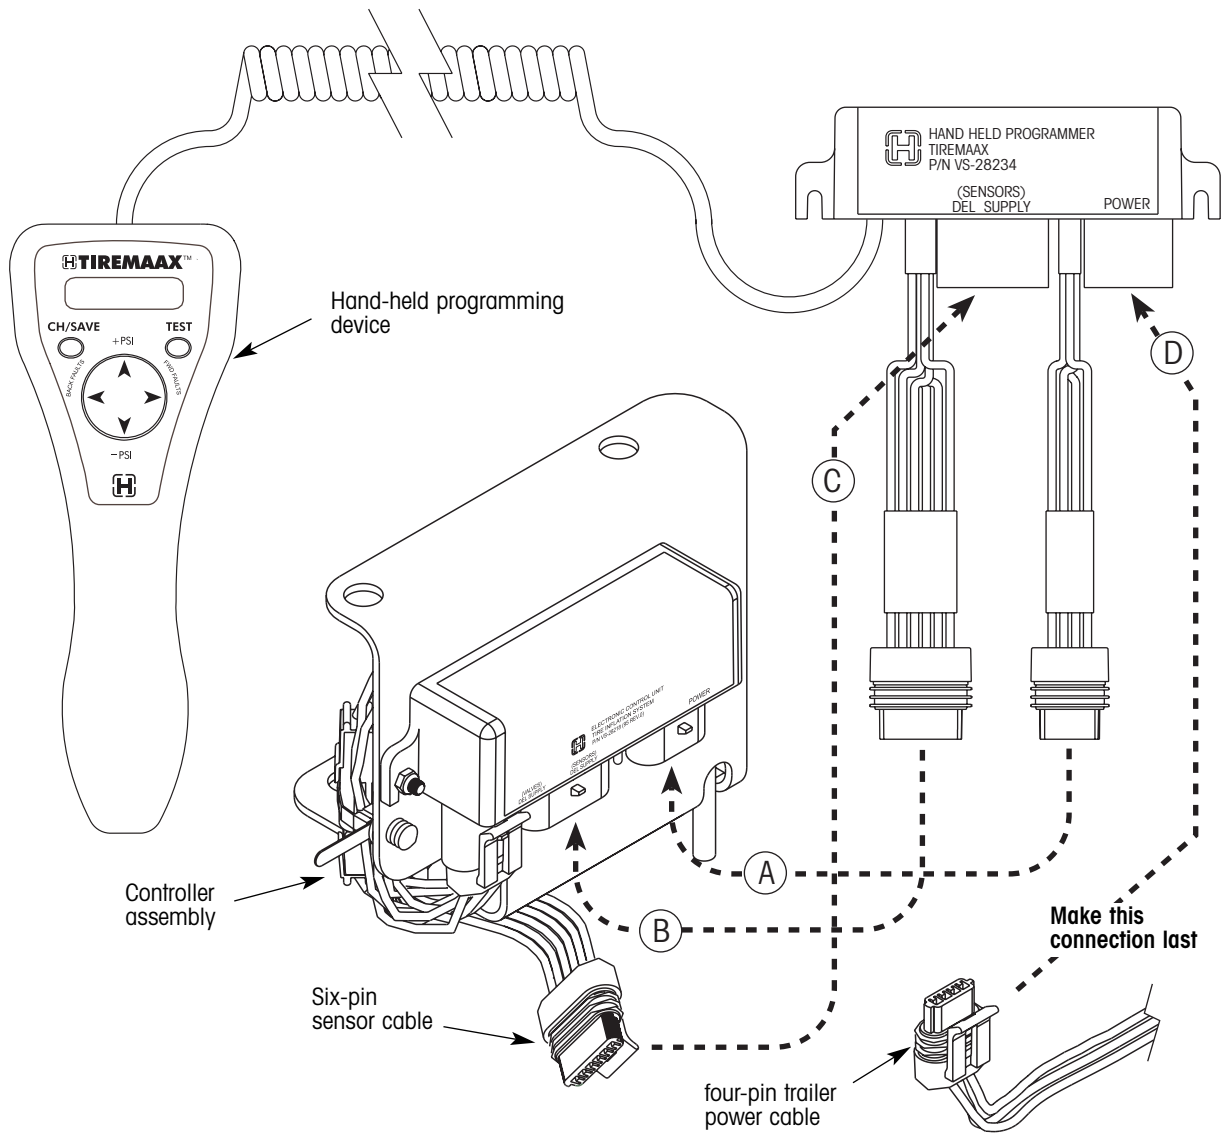

Figure 4. Connecting the hand-held programming device to the controller assembly ECU
5. Plug the four-pin connector from the hand-held programming device into the open four-pin socket on the controller assembly ECU (connection A, figure 4, the four-pin socket next to the LED).
6. Plug the six-pin connector from the hand-held programming device into the open six-pin socket on the controller assembly ECU (connection B, figure 4).
7. Plug the six-pin sensor cable from the controller assembly into the six-pin socket on the hand-held programming device (connection C, figure 4).
8. Plug the four-pin trailer power cable into the four-pin socket on the hand-held programming device (connection D, figure 4).